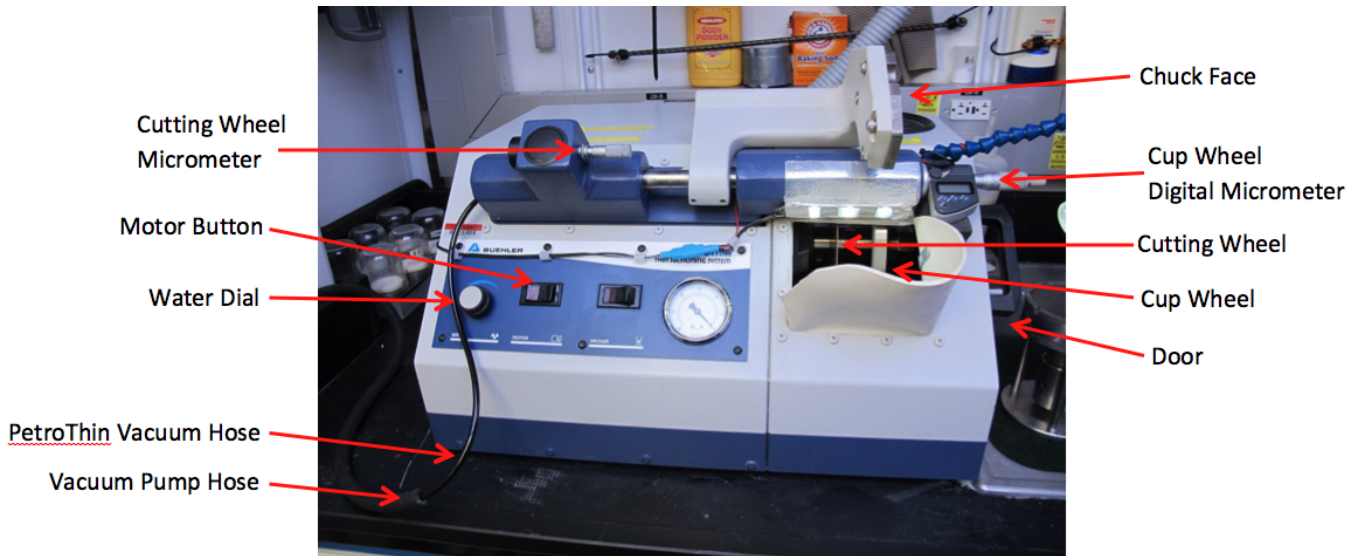

Figure 3
- a. If there is too much excess resin on the slide it will cause the slide to bow under vacuum on the PetroThin chuck face (Fig. 3). This will cause a bad seal or will crack the slide.
1. Connect the vacuum hose on the PetroThin to the vacuum pump hose if not already done (Fig. 3).
1. Set the cutting wheel micrometer to three increments and to 25 (Fig. 3 and 5).
2. Turn on the PetroThin wheels by pushing the **Motor** button on the front (Fig. 3).
3. Turn on the water by turning the **Water** dial counter clockwise (Fig. 3). Don't need too much water. Just enough to keep the sample wet.
2. Set the cup wheel digital micrometer to -0.600mm. (Fig. 3 and 7).
6. Open the door on the right side of the PetroThin and remove the cut off billet (Fig. 3).